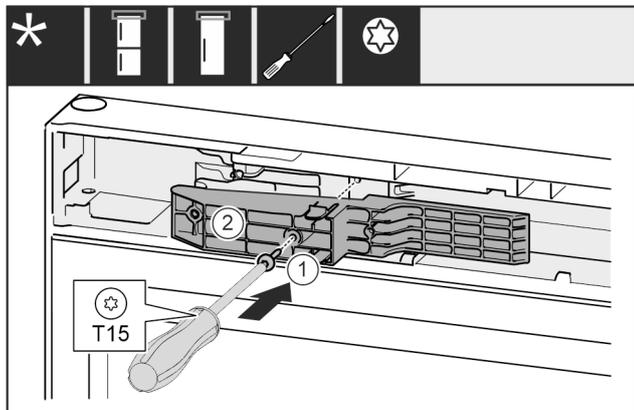

Fig. 70 *
- ▶ Insert adapter Fig. 70 (1) in the recess on the handle side.*
- ▶ Tighten screw Fig. 70 (2) with screwdriver.*